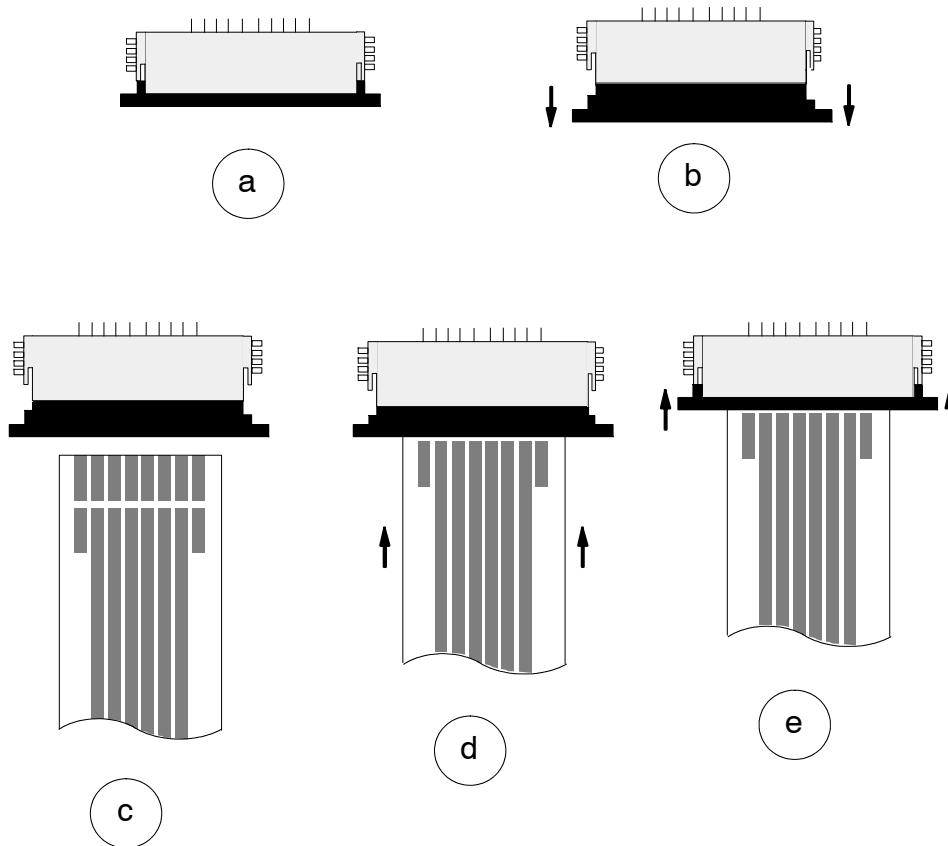

Figure 3 Keypad to PCA Board Connection - Connecting Ribbon Cable to J8 Connector
9. See Figure 3. Connect the ribbon cable from the keypad to the J8 connector on the PCA board.